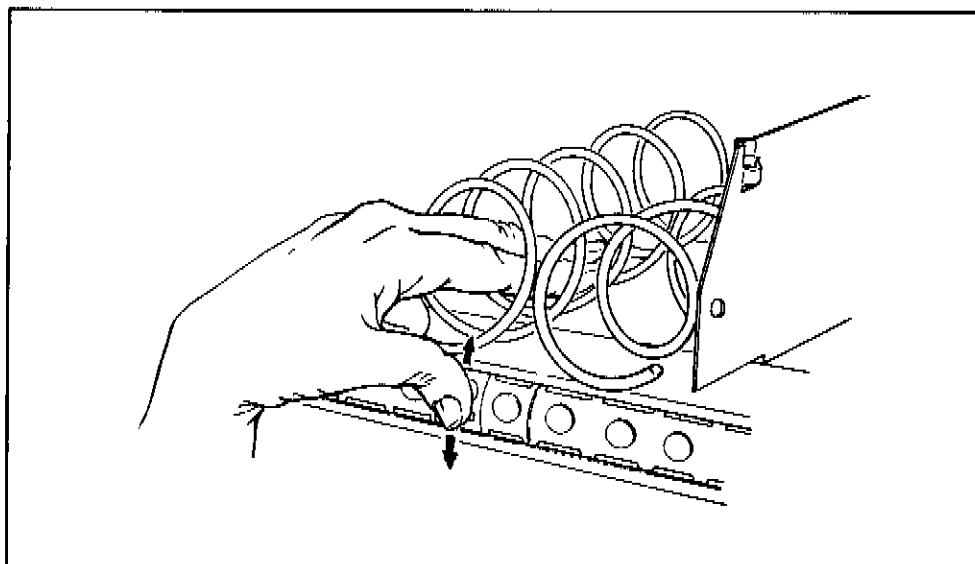

Figure S-17c
* Use your thumb to move each price roll up or down as needed to set the desired price. See Figure S-17c.